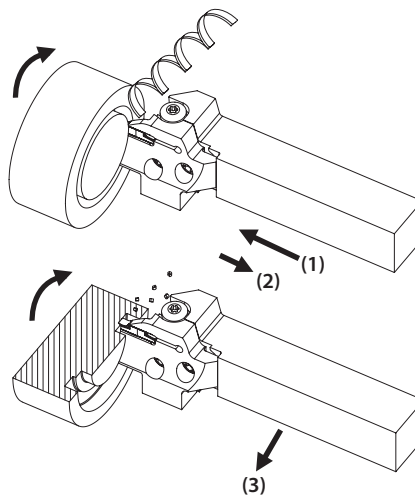

Fig.1
- (3) Perform traversing (see Fig.1)